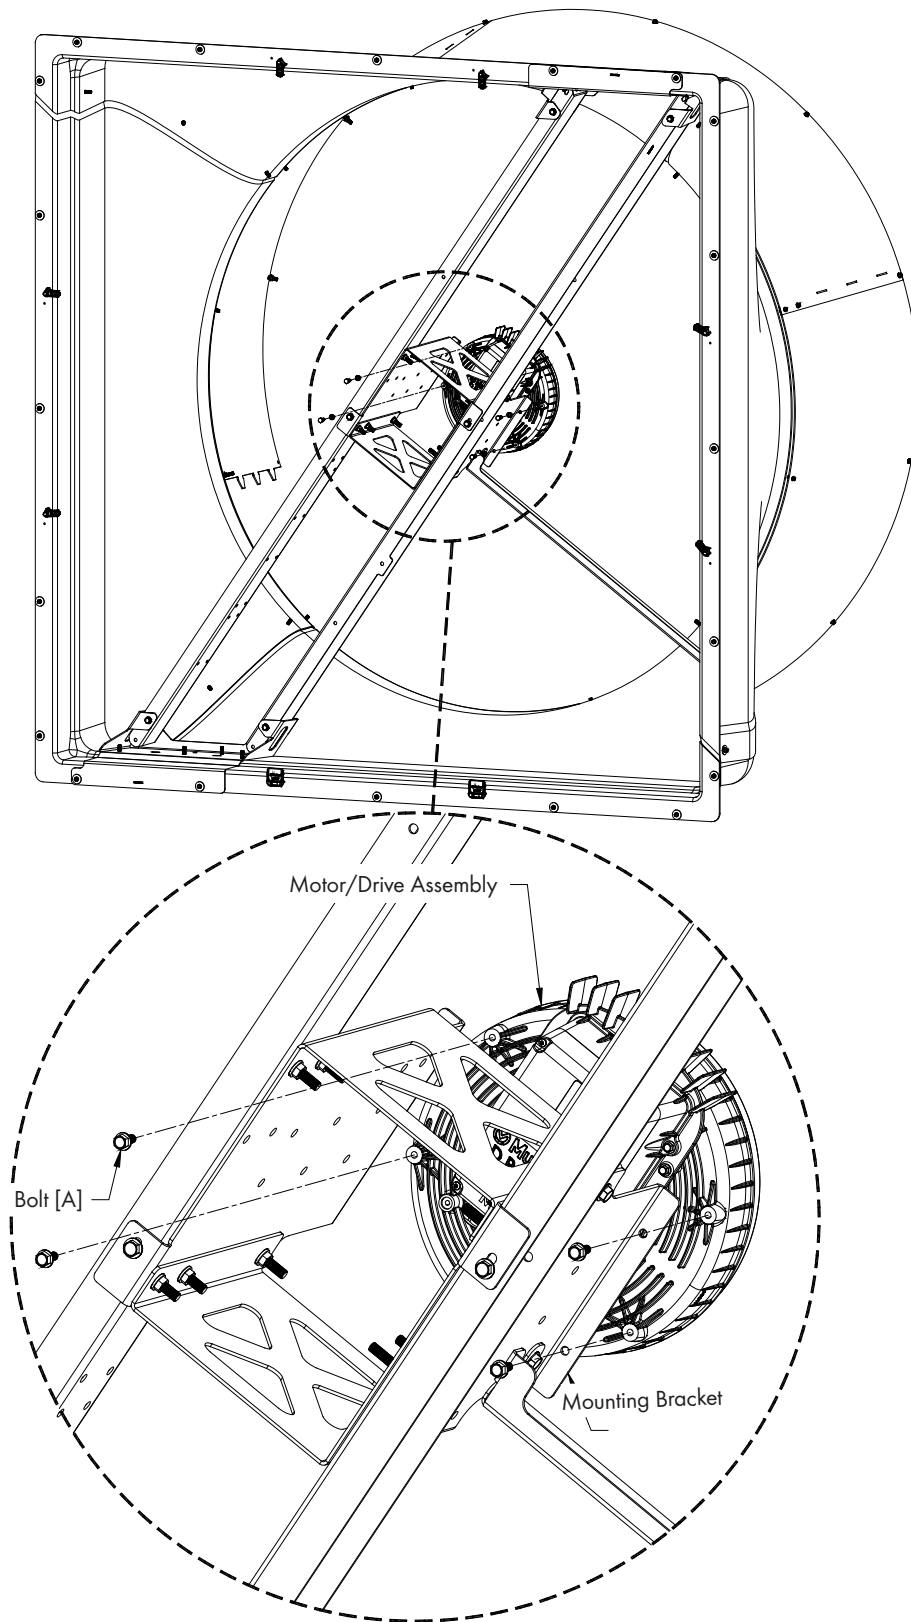

Figure 7
Carefully lift Motor/Drive into place and secure in place using (4) Bolts [A]. Tighten Bolts to 60 in-lbs. [6.8 Nm] of torque. See Figure 7.